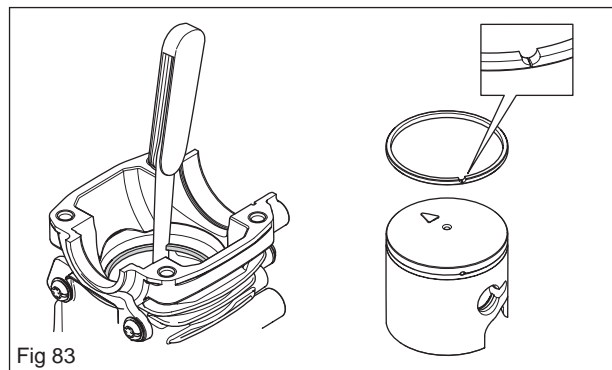

Fig 83
- Remove the piston ring from the piston to measure the wear. Use the bottom of the piston to press down the piston ring into the cylinder. The opening of the ring must not exceed 1 mm. Put the piston ring back into the piston slot and make sure it is the right way around, see figure 83.